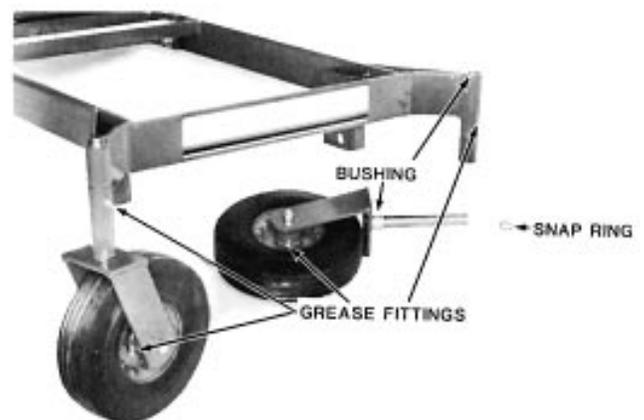

Figure 11
14. Insert a bushing in the top of each main frame swivel tube and slip another bushing on the shaft of each wheel swivel (Fig. 11).
15. Slide each wheel swivel shaft into a swivel tube from the bottom (Fig. 11).
16. Secure the wheel swivel to the main frame with a snap ring, sharp edge away from the bushing (Fig. 11).